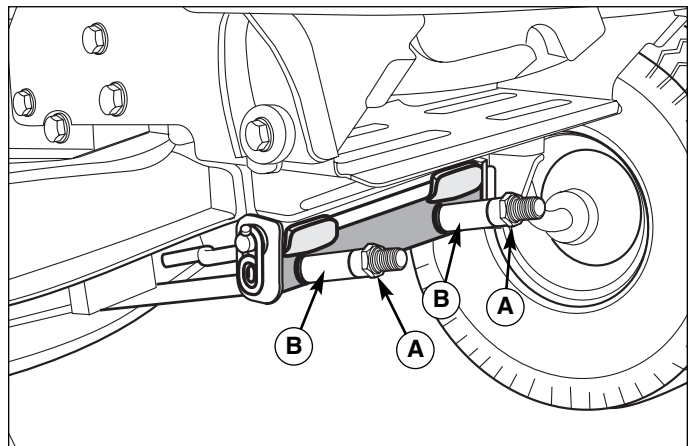

Figure 16. Leveling The Mower Side-to-Side
8. To raise front of mower deck, tighten locknuts (A, Figure 16) and against spacers (B). To lower front of mower deck, loosen locknuts (A). Locknuts must be turned evenly on both sides to keep deck level.